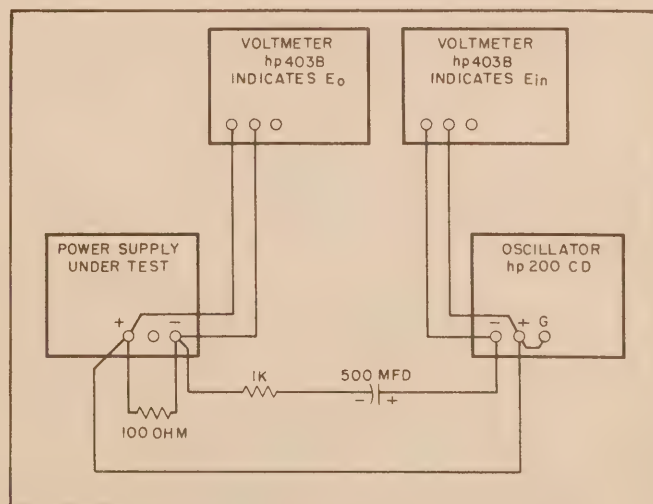

Figure 5-8. Output Impedance, Test Setup
- a. Connect test setup shown in Figure 5-8.